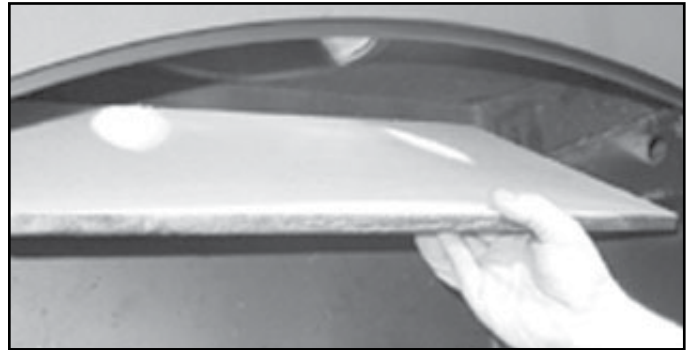

Figure 4.7 Removing Baffle (shown without ceramic blanket)
6. Slide fiber board baffle forward to front of fireplace and straight out through door. See Figure 4.7